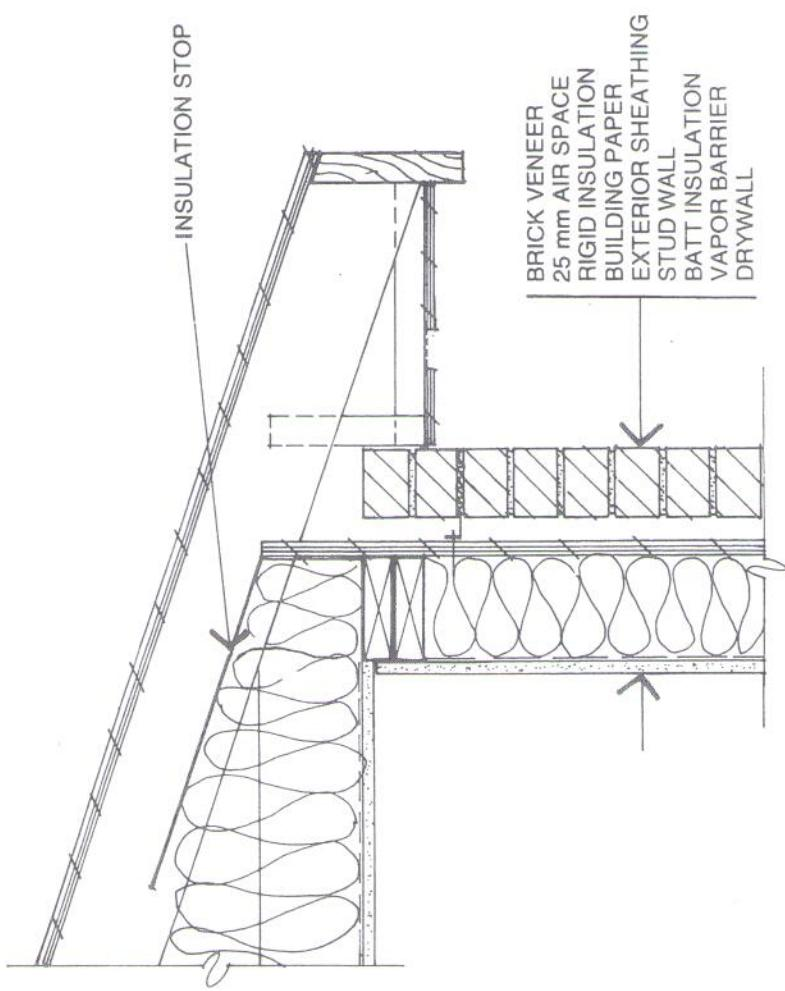

Figure 9 **Alternate brick detail at soffit**
- Figure 9 Alternate brick detail at soffit